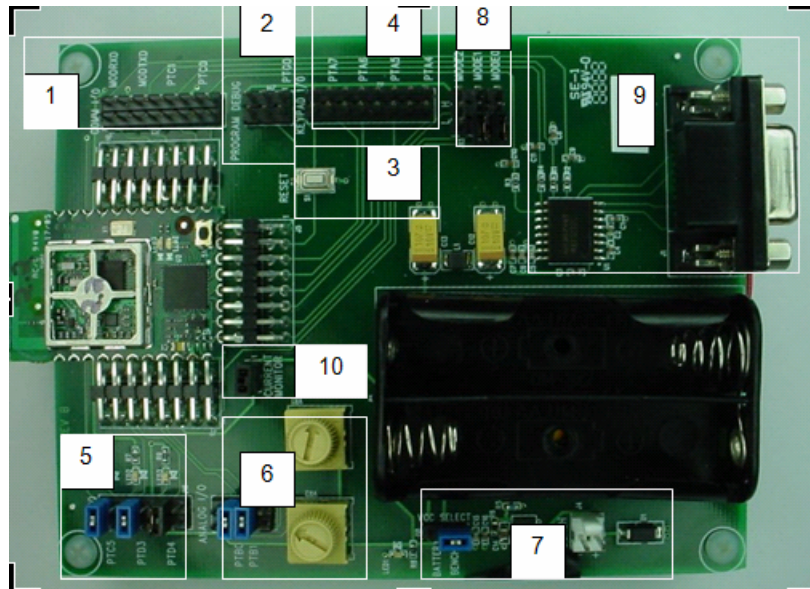

Figure 3-1 Interface Module with Trane RF Module Inserted in Socket
1. Press white reset button on Interface Board (See Figure 3-1 location 3) and black button on Trane RF module simultaneously.
3.1.1 *Interface Board Description for Each Location Shown in Figure 3-1*
- Header that allows the user to monitor the serial TX (MODTXD) and RX (MODRX) data lines from section 9 as shown in Figure 3-1 above. The header also provides quick access to Port C pins 0 and 1 on the microprocessor.
- To utilize LED's the jumpers must be connected as shown in Figure 3-1. The jumpers may be removed to externally access Port C pin 5 and Port D pins 3 and 4 for input or output operation.